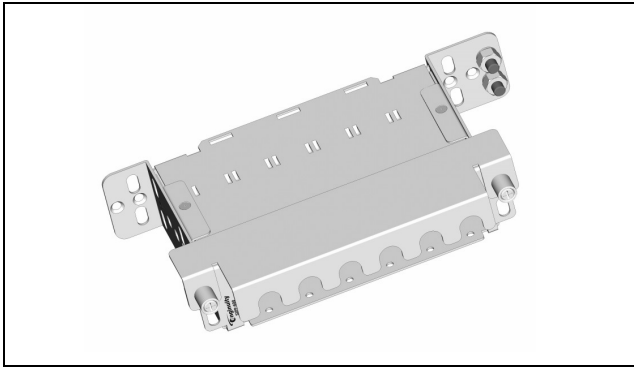

Figure 8. SIPP-600C with cable cover
Model SIPP-600C includes a cable cover (Figure 8) that needs to be removed in order to install or remove modules. The cable cover prevents tampering with front-side connections to network equipment after the modules and cables are installed. The cover is fastened to the chassis with two (2) spring-loaded Phillips screws.